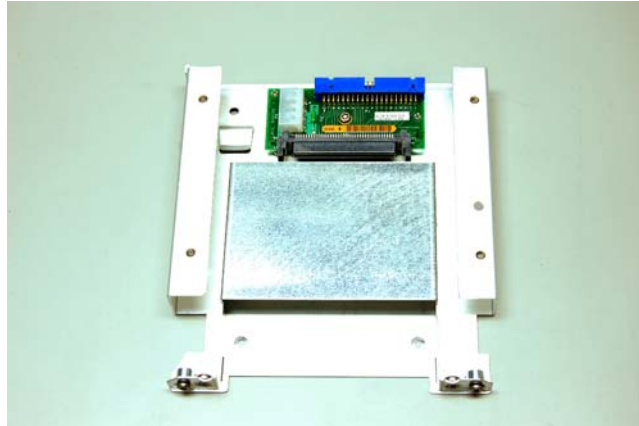

Figure 6: Installing IDE adapter board
2. Snap the IDE Adapter Board (part number 679-5705-xx) onto the two posts on the RHDD/DVD bracket. Attach the board to the bracket with one screw (part number 211-1050-xx) using a T-15 driver. See Figure 6.